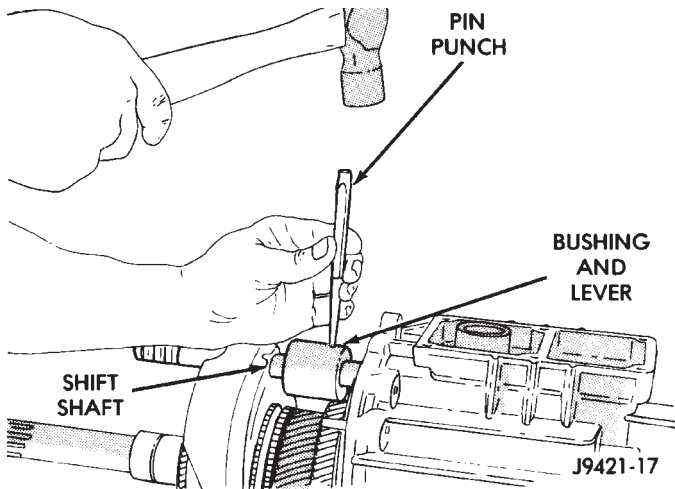

Fig. 22 Removing Shift Shaft Lever And Bushing Roll Pin
(4) Drive out roll pin that secures shift bushing and lever to shift shaft (Fig. 22).